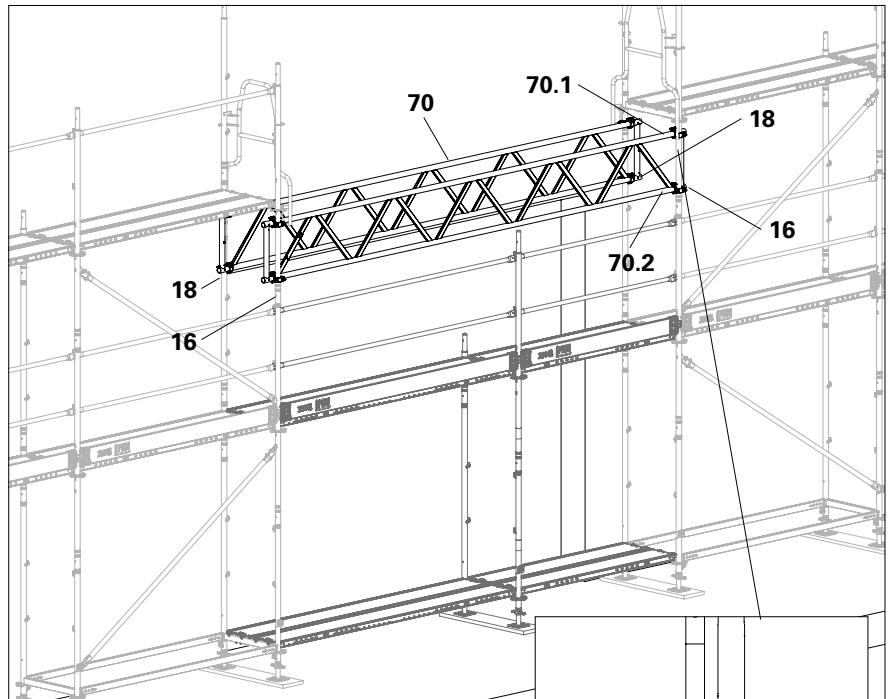

Fig. D5.02
- 4. Using four additional standard couplers, firmly screw the bottom chords of the formwork girders (**70.2**) in the same way. (Fig. D5.02)